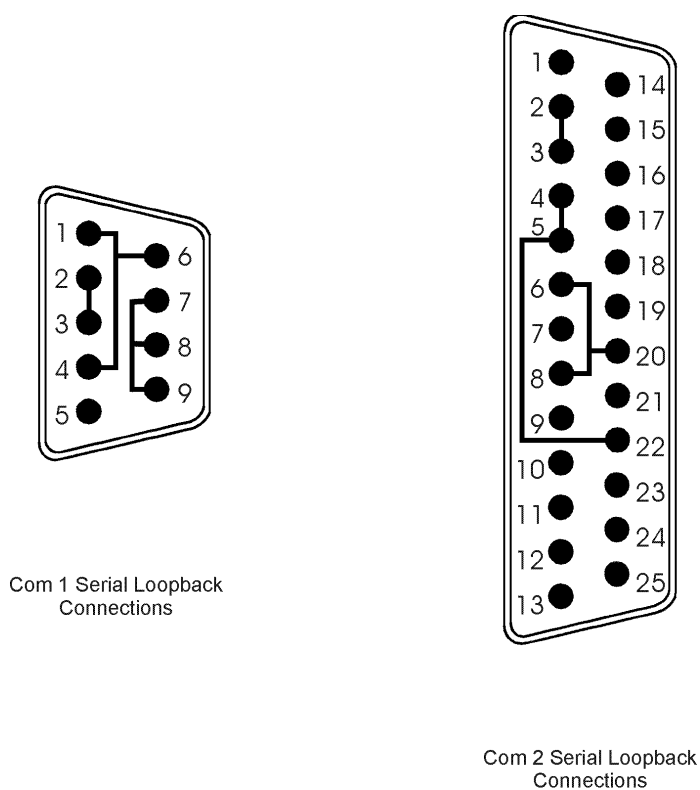

Figure 2- 1. Serial Loopback Connections
- Two serial loopback test connectors (refer to Figure 2- 1 for pinouts)
To run the test, insert the diagnostics disk into drive A. Turn on the computer (the diagnostics program will boot-up). Figure 2- 2 shows the Main Menu.